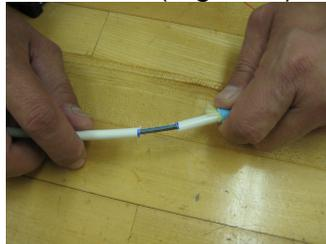

Figure 7 – Removing the central tube.
4.8 Flex and snap the central tube at the score mark, then pull and remove the core tube to expose the AccuRibbons® (Figure 7).